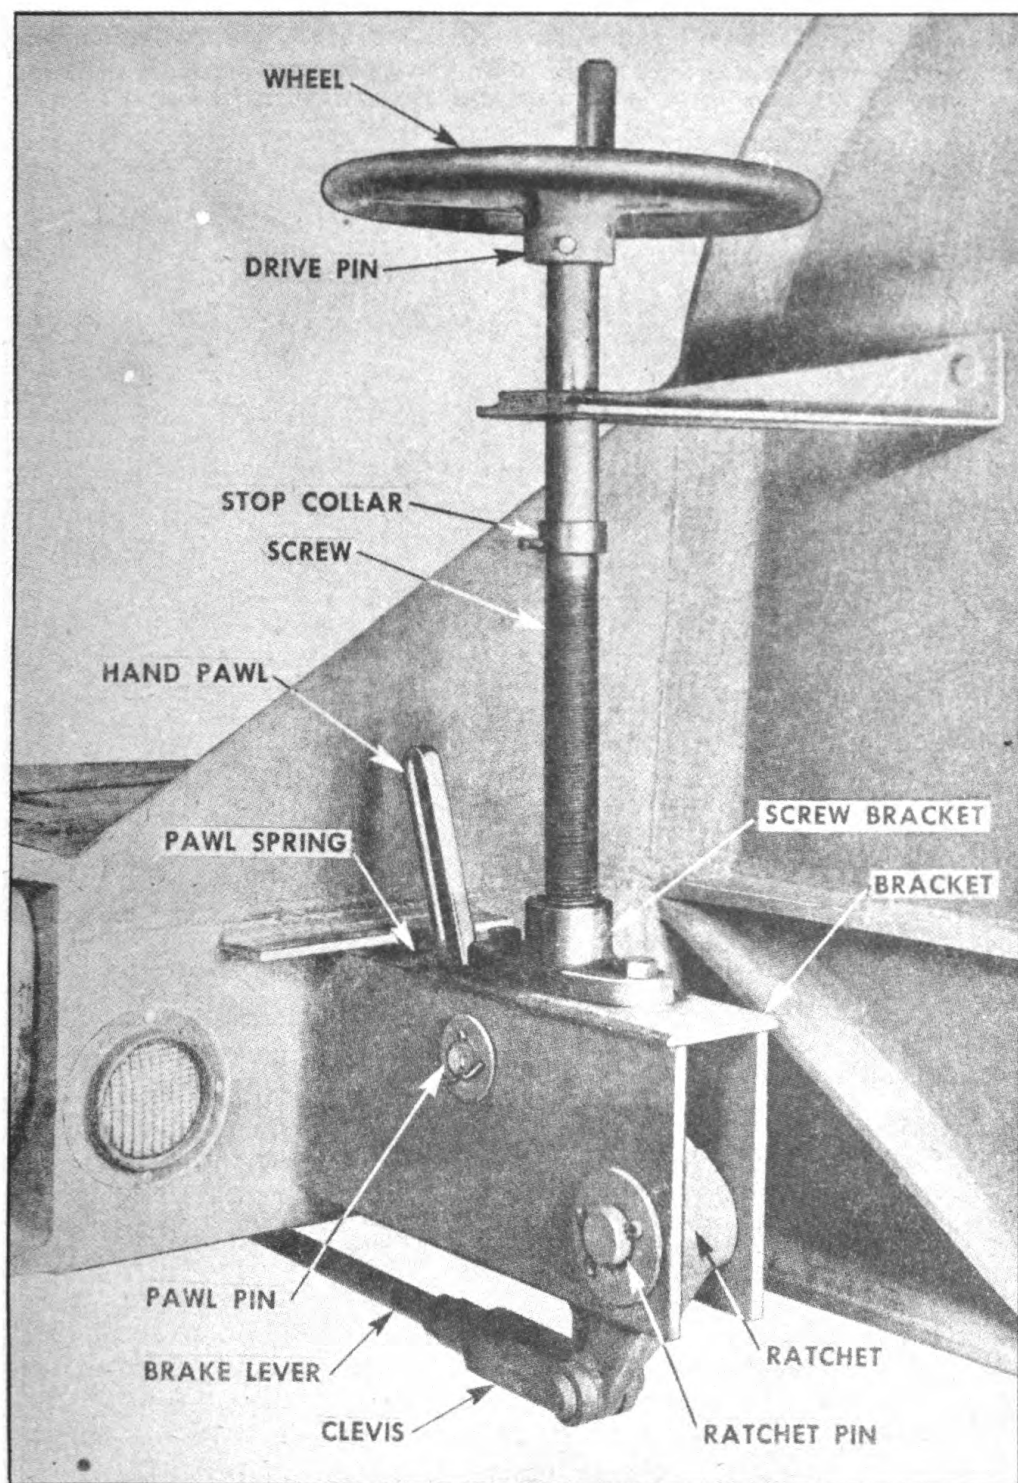

FIGURE 26. HAND PARKING BRAKE
(1) Loosen both nuts on both anchor pins so that the anchor pins can be moved freely.
(2) Replace the wheel and drum assembly. If it fails to move on freely, slack off on the slack adjusters through counter-clockwise movement of the slack adjuster wing wrench and centralize anchor pin eccentrics.
(3) With the wheel in place, turn the slack adjuster wing wrench clockwise until the shoes are tight in the drum.
(4) Turn the eccentric anchor pin to right and left as you tighten up on the slack adjuster until the brake shoes are centralized in the drum.
(5) Using a feeler gauge, set the clearance at .010 at the eccentric end and .015 at the cam end of the brake shoes.
(6) Tighten lock nuts on the anchor pins while holding anchor pins firmly in position with a wrench.
8. HAND PARKING BRAKE REPLACEMENT (Figure 26).—*a.* The hand parking brake is located on the right side, at the drop in frame. Turning the wheel in a clockwise direction applies the brakes.
b. Replacing the wheel.—(1) Drive out drive pin and tap wheel handle off screw.
c. Replacing screw.—(1) Loosen set screw in stop collar and turn wheel in a counter-clockwise direction until screw is turned out of bracket.
d. Replacing ratchet.—(1) Remove the clevis pin from ratchet. Remove cotter key and flat washer from ratchet pin, and drive pin out.
(2) Remove cotter key and flat washer and drive out pawl pin. Reverse this procedure to replace pawl.
9. ADJUSTING HAND PARKING BRAKE.—*a.* Usually the hand parking brake requires little attention, the minor brake adjustment taking care of parking brake adjustments. However, when an adjustment is required, there are two points of adjustment which may be used. Each may be used separately or both at the same time. One adjustment may be made by shortening the brake rod at hand brake ratchet (Figure 26). The other adjustment may be made by shortening the brake rod which is attached to brake cylinder lever.
(1) Shorten brake rod at hand brake ratchet (Figure 26).